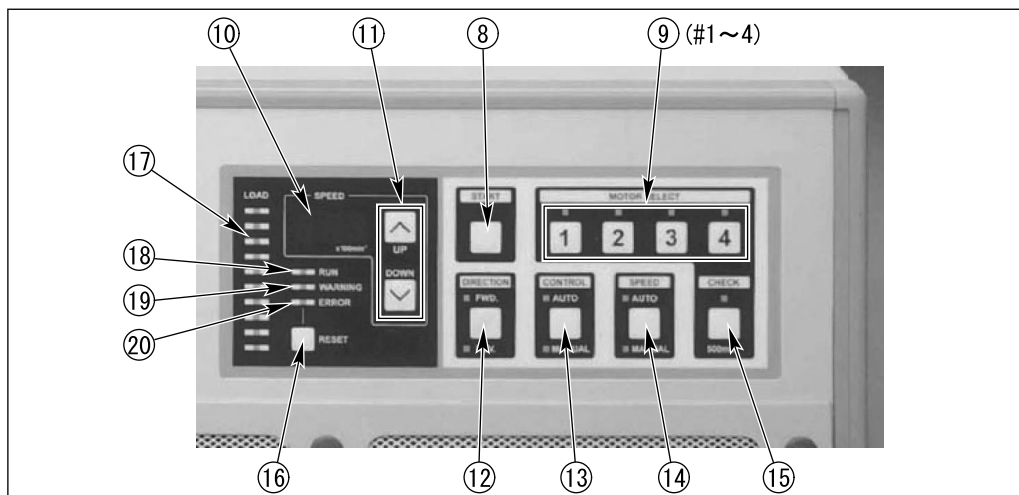

Fig 3
- ① Unit
- ② Power Switch
- ③ Control Panel
- (P8, Fig 3)
- ④ Motor
- ⑤ Motor Cord
- Connect the Motor cord to the motor and Motor Connectors ②① located on the back of the unit.
- ⑥ Front Panel Filter